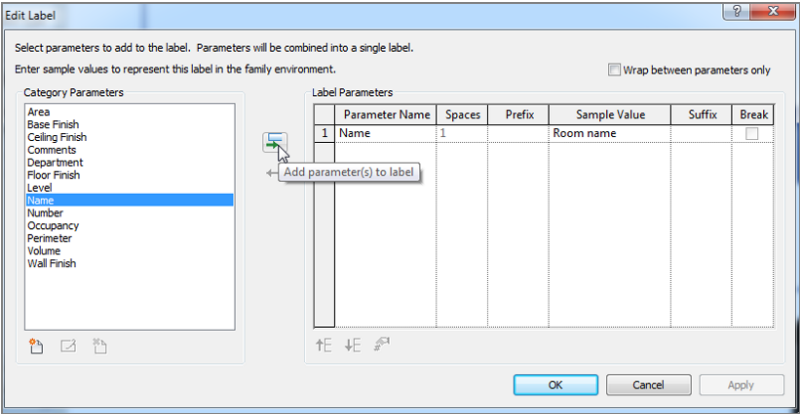

FIGURE 15.12: A list of available parameters that you can add to the room tag
- 5. In the Edit Label dialog box, the list to the left displays all the parameters that you can add to the room tag (see Figure 15.12). Don't change anything; click OK.